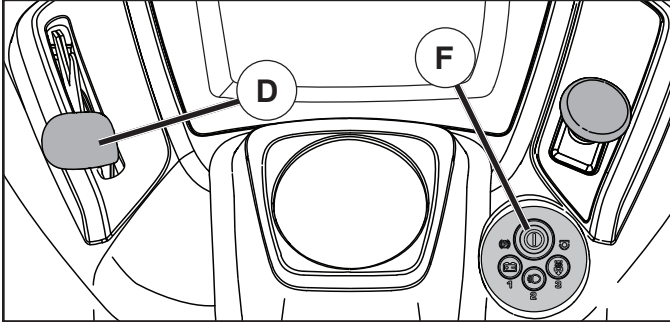

Fig. 23
TO USE THROTTLE CONTROL (D) (See Fig. 23)